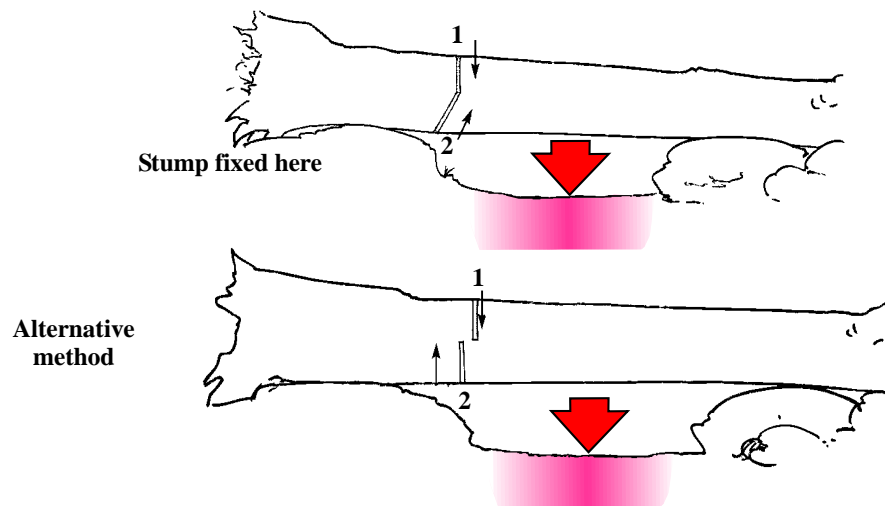

Figure 80 Sequence of cutting in case of a 'log trap'
**A Log trap occurs when one end of the log is unable to move (Fig. 80)**